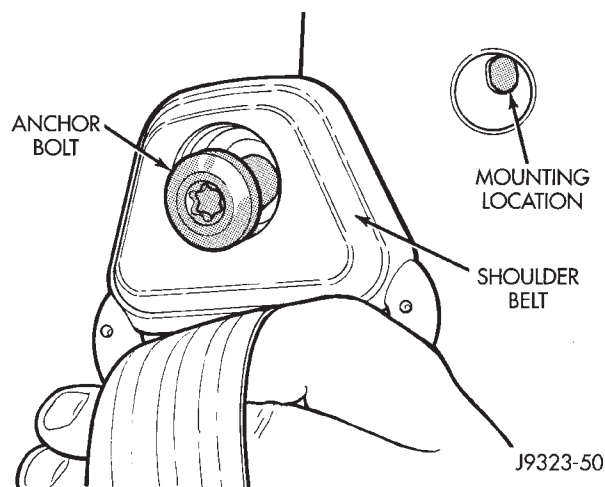
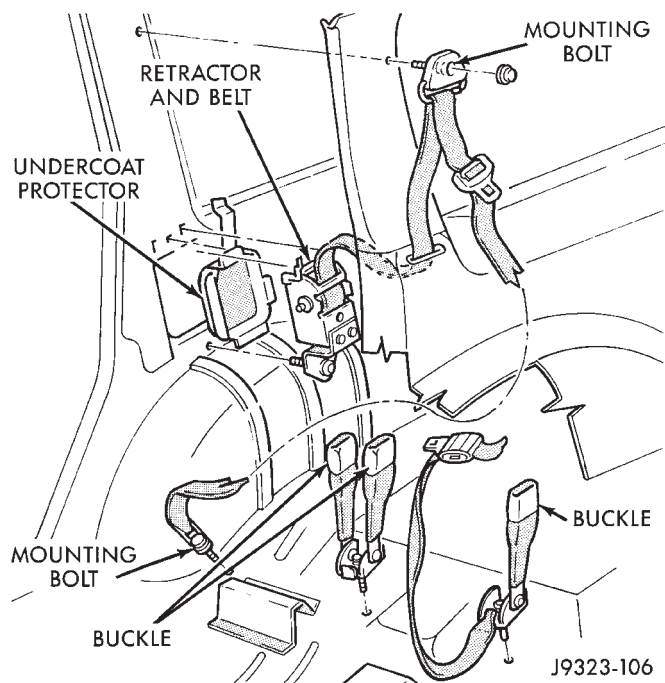

Fig. 20 Upper Seat Belt Mounting
Fig. 21 Rear Seat Shoulder/Lap Belts & Buckles
- (7) Use a Torx bit to remove upper anchor bolt (Fig. 20).
- (1) Pull rear seat release strap and tilt seat bottom forward. Remove seat bottom from lower latch.
- (2) Unlatch seat back and tilt forward.
- (3) Remove shoulder belt buckle and lap belt/buckle anchor plate bolts from the floor panel (Fig. 21).
- (4) Remove quarter trim panel.
- (5) Remove shoulder belt upper anchor bolt (Fig. 20).
- (6) Remove belt retractor anchor bolt from rear quarter rail (Fig. 21).
- (7) Remove retractor and shoulder belt from panel (Fig. 21).